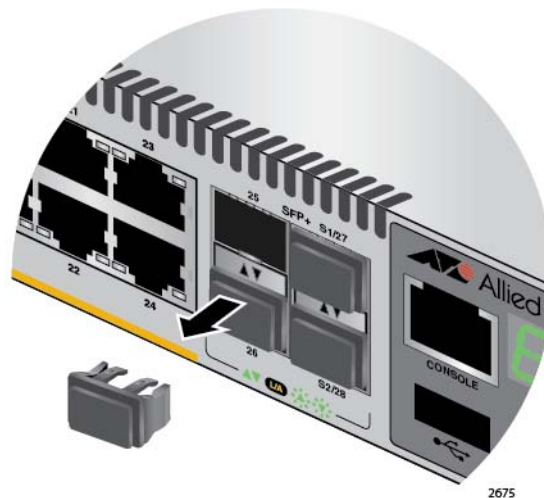

Figure 24. Removing the Dust Plug from an SFP+ Slot
1. Remove the dust plug from a transceiver slot on the switch. Refer to Figure 24 on page 66.